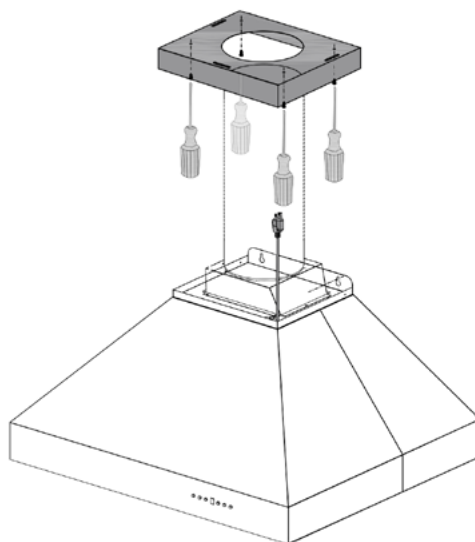

Figure 1
Pre-mark holes and then secure the bracket to the ceiling using 4 screws/washers (C/D). You may fasten the screws into anchors (A) if desired for extra stability. **NOTE:** The front and back sides of the bracket are slightly longer than the sides. *Figure 1*